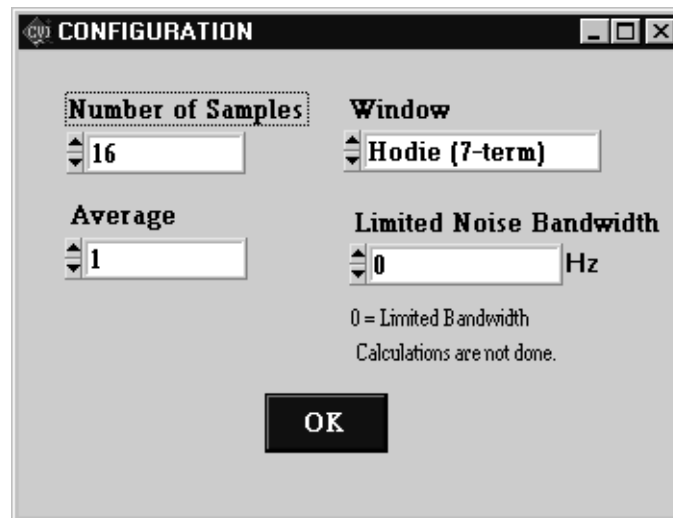

Figure 4. Configuration Panel
**CONFIG:** Opens a pop-up panel (Figure 4) to configure how much data is to be collected, and how to process the data once it is collected. The following are controls and indicators associated with the CONFIG panel.